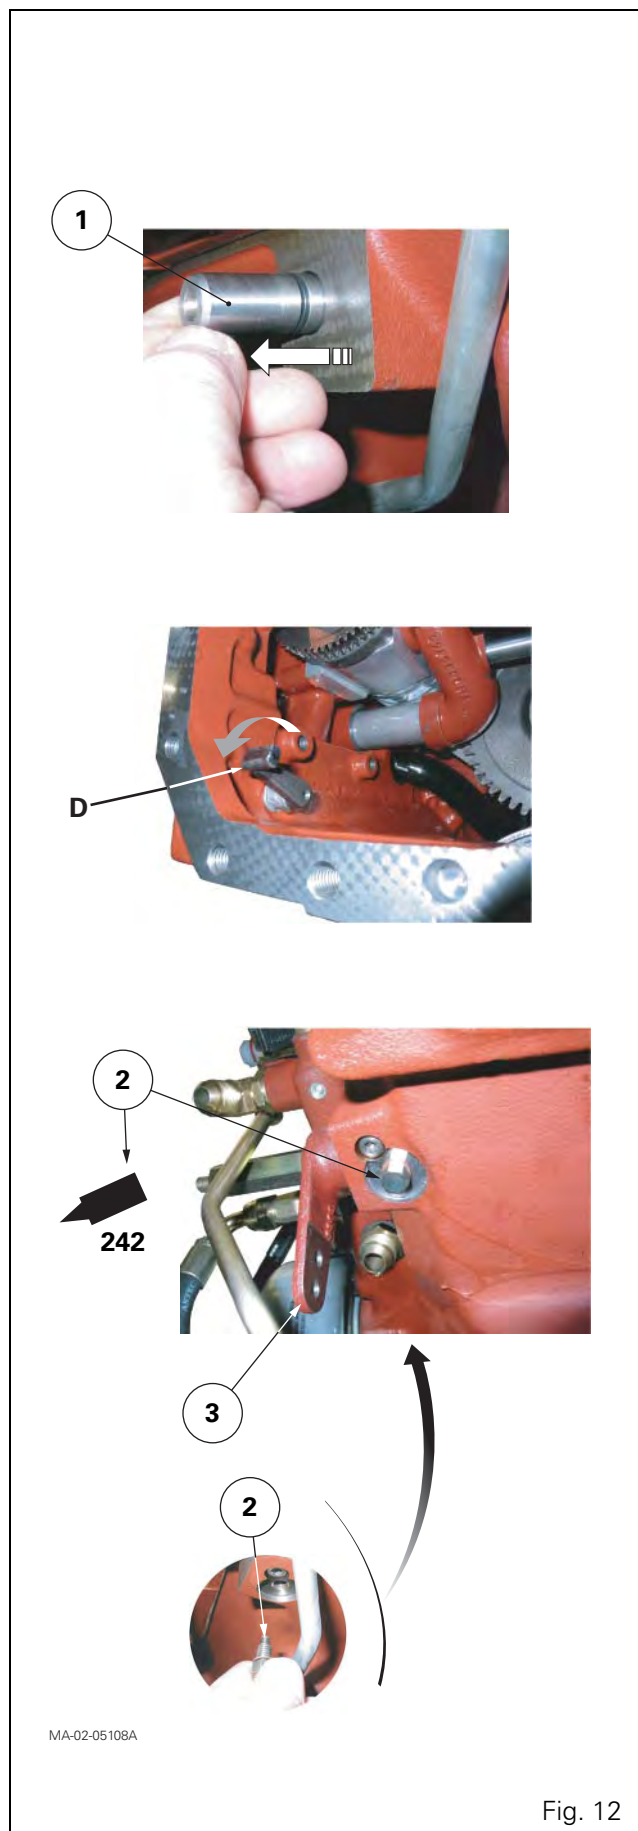

Fig. 12
On the centre housing (Fig. 12)
40. Fit a new seal on the screw (2) (Fig. 12).